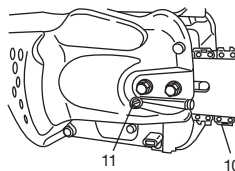

Fig. 5
7. Raise the bar end, and tighten the chain (10) by turning the tension adjustment bolt (11) clockwise. To check proper tension, lightly lift up the center of chain and there should be about 0.02-0.04in (0.5-1.0mm) clearance between bar and edge of drive link (12). (Fig. 5, 6)